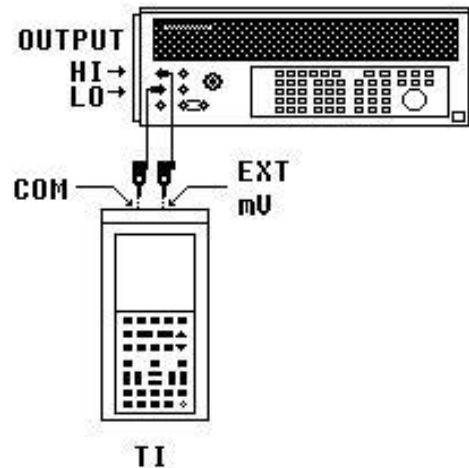

Figure 7. Meter EXT.mV.
- (1) Connect equipment as shown in figure 7 below: